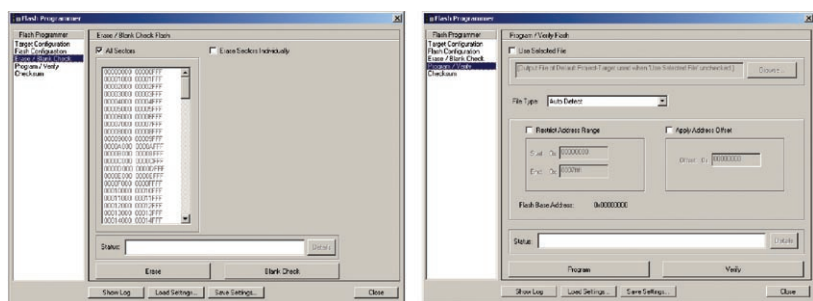

Figure 5: Downloading code with flash programmer tool
11. Select the **Erase/Blank Check** page, select “All Sectors” and click **Erase**. See Figure 5 below.